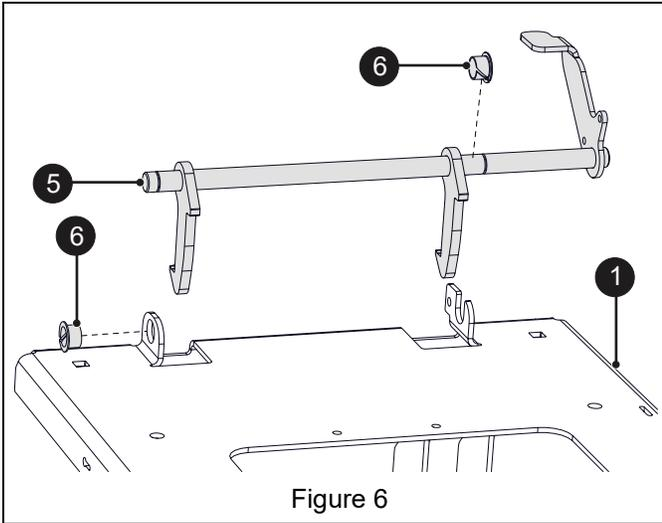

Figure 6
3. Install one split bushing (item 6) on seat latch (item 5). Install second split bushing (item 6) on seat plate assembly (item 1). Install bushings with the flanges facing outward. See Figure 6.